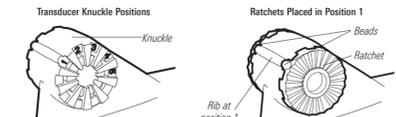

Figure 23a
2. Place the two ratchets, one on either side of the transducer knuckle, so that the beads on each ratchet line up with the desired position number on the knuckle (Figure 23a). If you are setting the ratchets at position 1, the beads on each ratchet will line up with the rib on the transducer knuckle to form one continuous line on the assembly (Figure 23b).
Hold the ratchets on the transducer knuckle with one hand and fit the pivot arm over them until it snaps into place with the other hand. Refer to the illustration (Figure 23a).